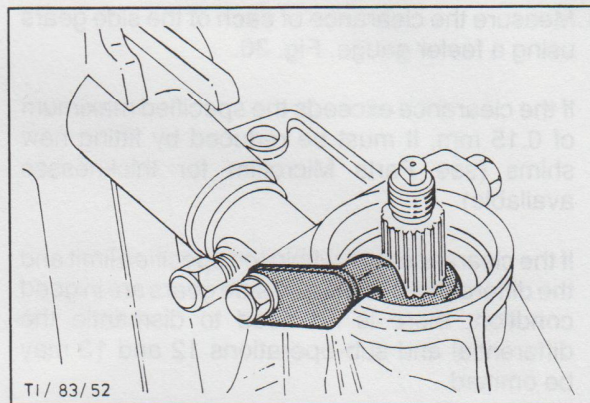

Fig. 33. Holding tool GV-1504 in use.
- Fit Holding Tool GV-1504 on the drive pinion nut and bolt it to the casing, Fig. 33.